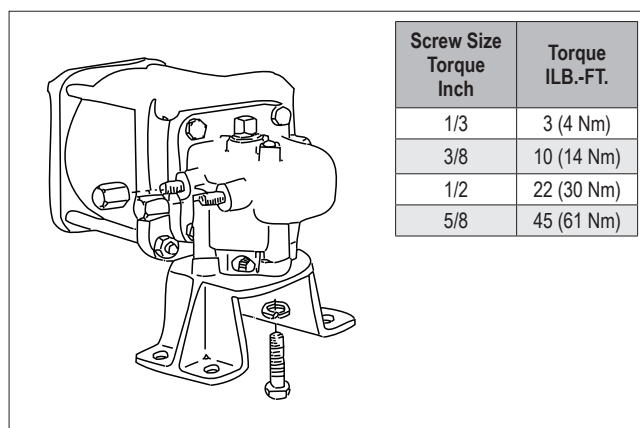

Figure 5.
2. Assemble bracket to actuator as shown in **Figure 5**, torquing screws to the values shown in the table.